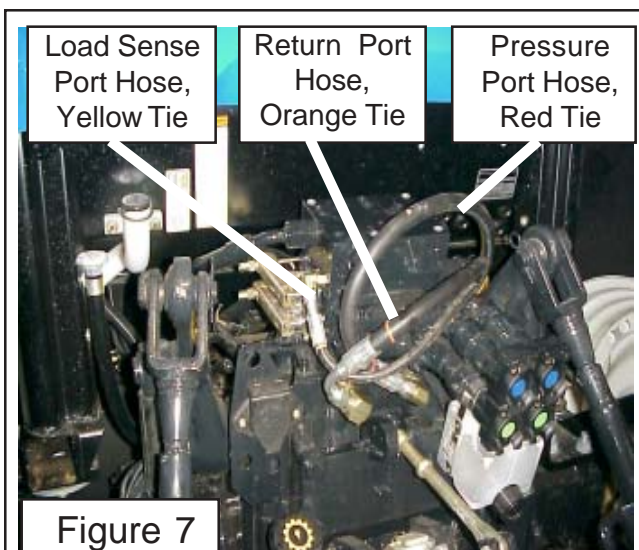

Figure 7
3. Install Hoses to Stack Valve. The Hoses will attach to the stack valve and be run up over the top of the valve and down under the cab on the right hand side. These hoses will be run over the top of the battery box next to the engine, they should be tied up to keep them clear of the exhaust system and anything that might rub and damage them. (See Figure 7). The hoses must be connected to the correct port at stack valve and again at the front of the tractor to function properly. The hoses will have plastic ties on them to identify where they connect. The Pressure Hose has a solid red plastic tie, the return has a solid orange plastic tie and the load sense hose has a solid yellow plastic tie.